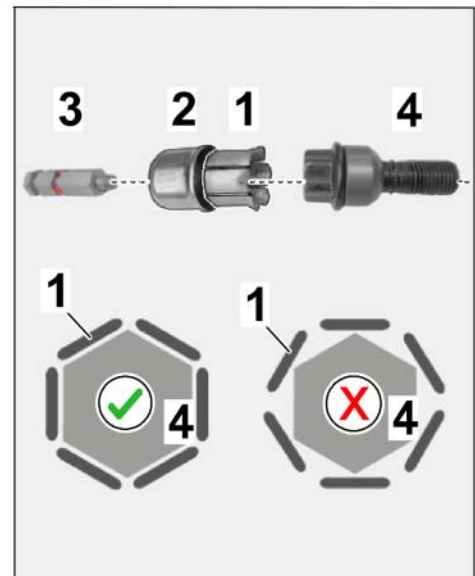

Figure 4
- 2.1.3 Install assembly (spacer bolt, clamping sleeve and clamping piece) on wheel bolt, paying attention to the "hexagon contour" (slot on wheel bolt edge) of the wheel bolt (⇒ *Figure 4-bottom-*).